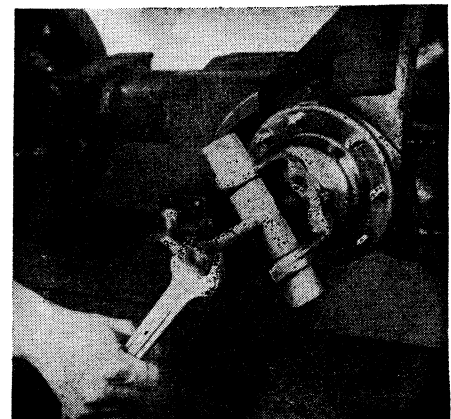

Fig. 98 Insert puller through yoke and remove
2. Insert puller through yoke, Fig. 98, and remove.